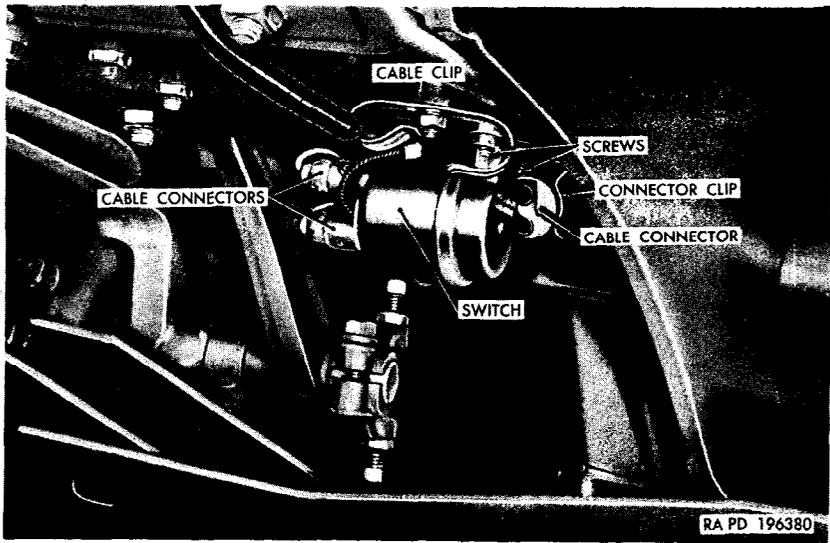

Figure 147. Dimmer switch.
- (1) Remove the rear splash shield from the left front fender (par. 250*h*).
- (2) If the vehicle is equipped with a slave receptacle, disengage the receptacle cable from the cable clip near the dimmer switch.
- (3) Remove the large cable connector from the connector clip (fig. 147), separate the connector shells on the three cables, and disconnect the cable terminals.
- (4) From inside the driver's compartment, remove the two screws and lockwashers that secure the switch and remove the switch from the toeboard.
- (1) Position the dimmer switch (fig. 147) on the under side of the toeboard and install the two $\frac{3}{8}$ -inch lockwashers and $\frac{3}{8}$ -16NC x $\frac{3}{4}$ cross-recess pan-head screws. Tighten the screws.
- (2) Connect the three cable terminals to their respective cables and connect the shells. Engage the large cable connector in the connector clip (fig. 147).
- (3) Engage the slave receptacle cable in the cable clip (on vehicles so equipped).
- (4) Install the left front fender rear splash shield (par. 250*i*).